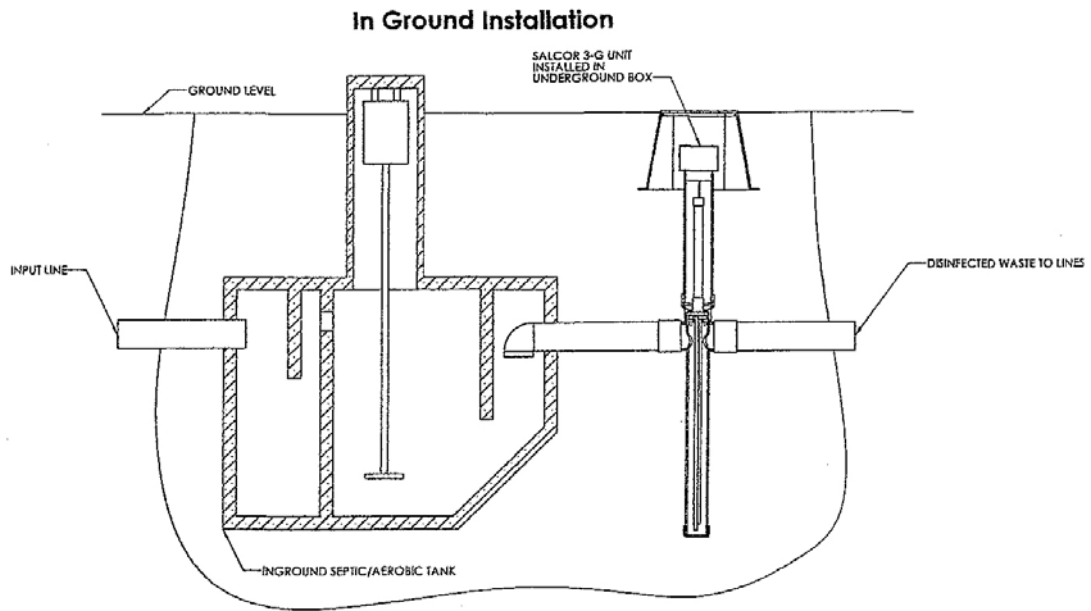

Figure 2
1. In the ground: couple the 4-inch inlet to the exit pipe of the pretreatment unit, and couple the 4-inch outlet to the drain field pipe. See ***Figure 2***.